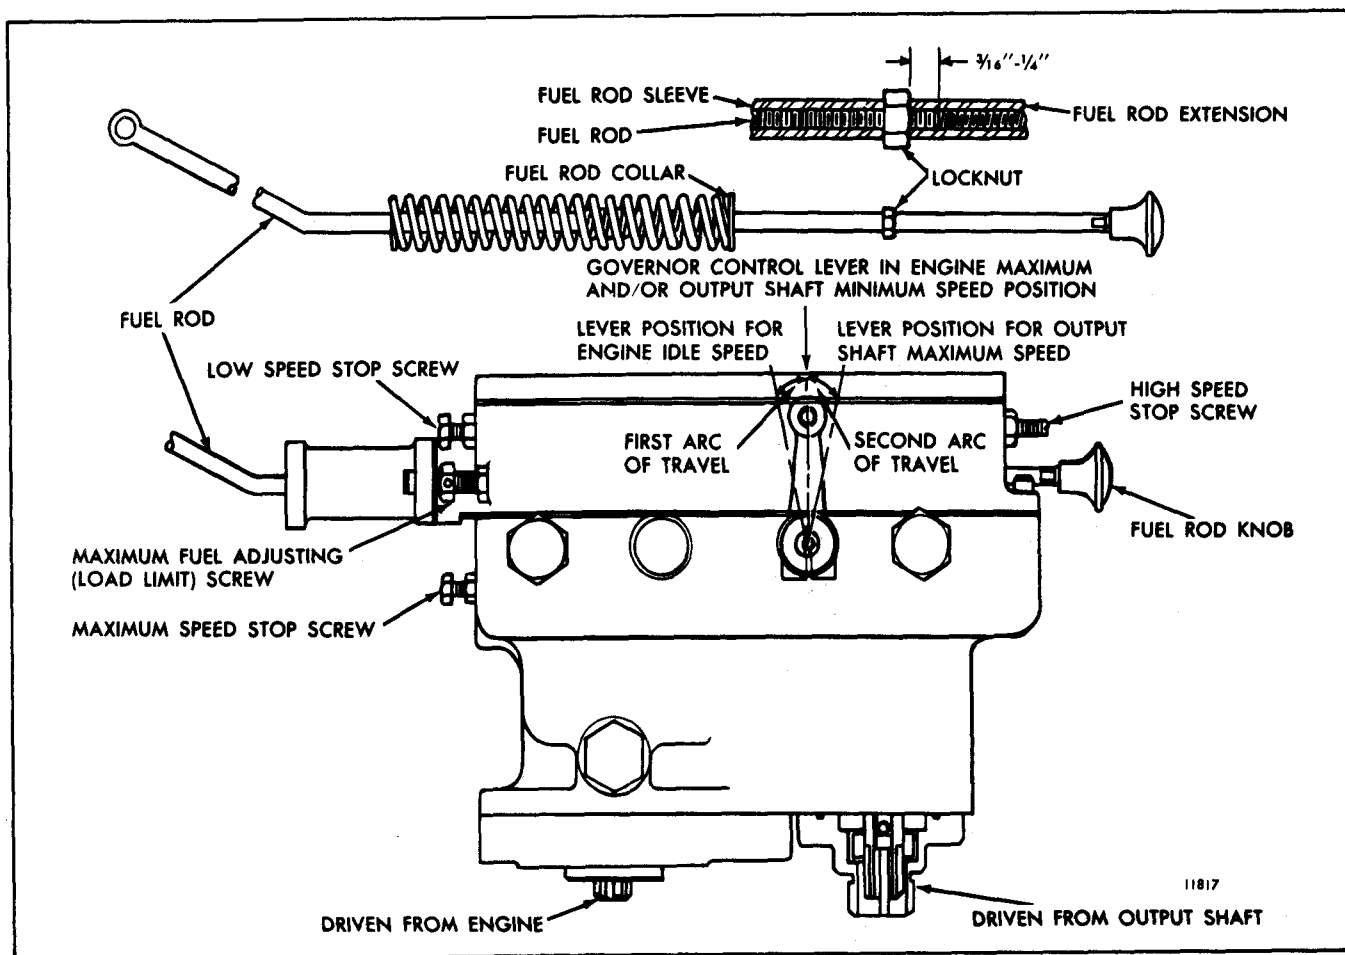

Fig. 1 - Single Lever Dual Hydraulic Governor
A dual hydraulic governor assembly is used with certain torque converter applications. This governor consists of two sets of flyweights and pilot valve assemblies that are interconnected to operate a single servo piston. One set of flyweights is driven by the engine. The other set is driven through a flexible shaft by the output shaft. The governor assembly used on a particular engine may have either single (Fig. 1) or dual (Fig. 3) speed control levers.
The single-lever type governor control lever is attached to the output shaft governor speed adjustment shaft (Fig. 1). The engine governor and the output shaft governor speed adjusting shaft arms are linked together by a "slip-joint" link (Fig. 2).
3. Loosen the fuel rod locknut and unscrew the shutdown knob and rod extension (insert of Figs. 1 and 3).